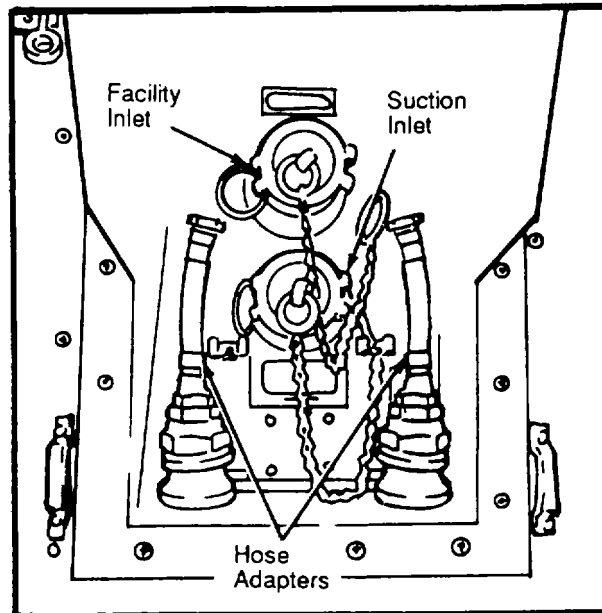

Figure 2-10. Water Inlet Box
(1) Remove a hose adapter from water inlet box and hook up the 50 foot garden hose to the hose adapter.
(2) Hook up the hose adapter with garden hose, to the facility inlet on the curbside, exterior of the van (Figure 2-10).
- (1) Perform all steps above for Potable Source, Pressurized System (Paragraph 2-9a).
- (2) Hook up the hose adapter, with garden hose, to the suction inlet (Figure 2-10) on the curbside exterior of the van.